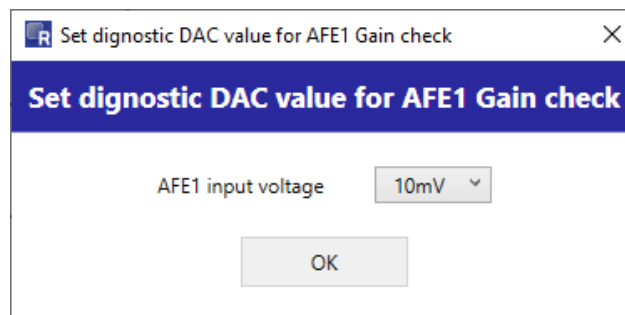

Figure 180. Input for AFE Gain Check
- Click on 'Get'. The 'Set diagnostic DAC value for AFE(x) Gain check' window pops-up (see Figure 180).